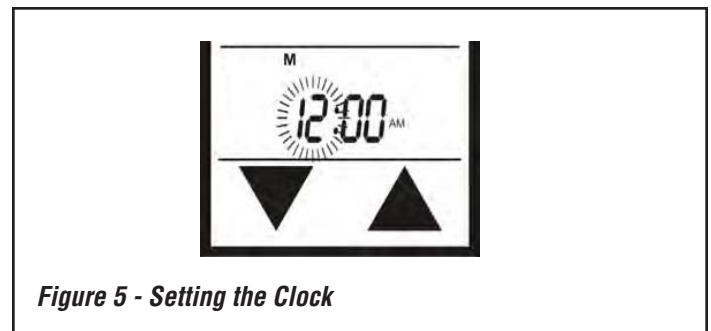

Figure 5 - Setting the Clock
1. Press and hold the **SET** button, or touch the **SET** section on the touch screen, for 5 seconds. The hour section should begin to flash. (Fig. 5).